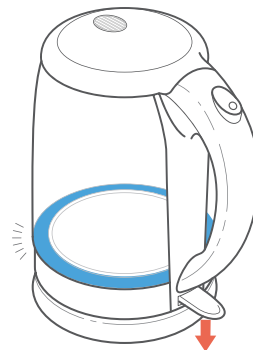

Figure 1.3
5. Press the **On/Off Switch**. The blue indicator light will turn on. [Figure 1.3]